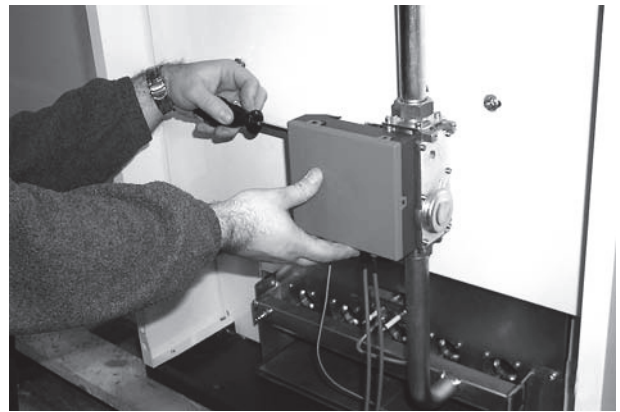

fig. 7 - Undo the control unit screws
- Undo the two screws securing the electronic flame controllers to the gas valve (fig. 7) and remove them from the gas valves (fig. 8).